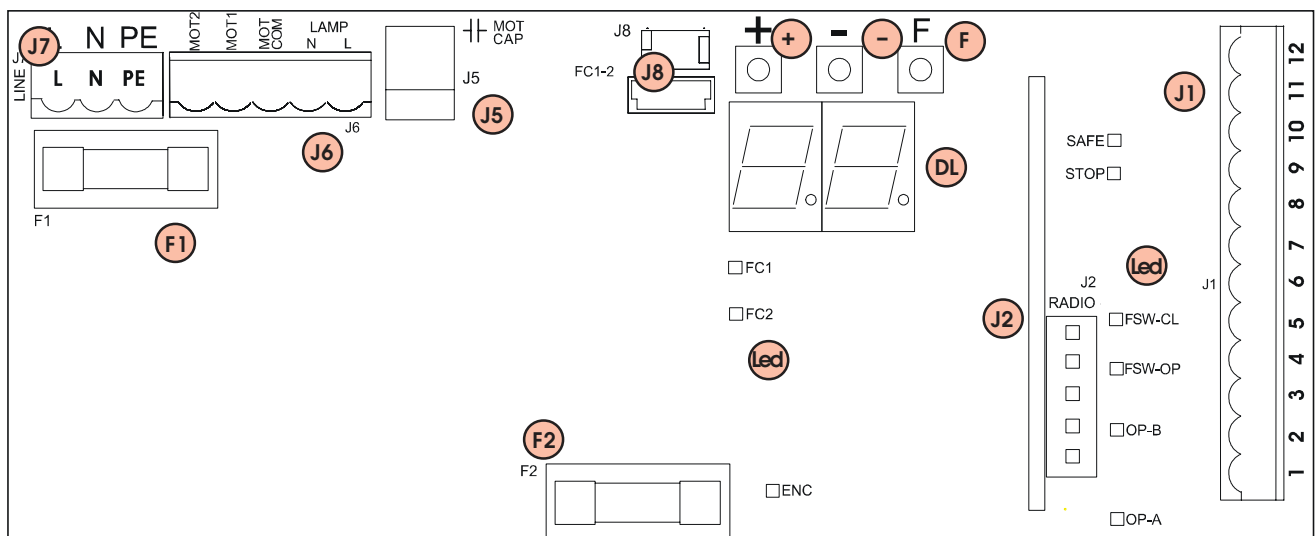

Fig. 22
- Connect the earth cable to the terminal on J7 connector of the board, and to the bush on the operator (figs. 22 and 40).
Protection fuses	2 (see fig. 22 and par. 5.3)